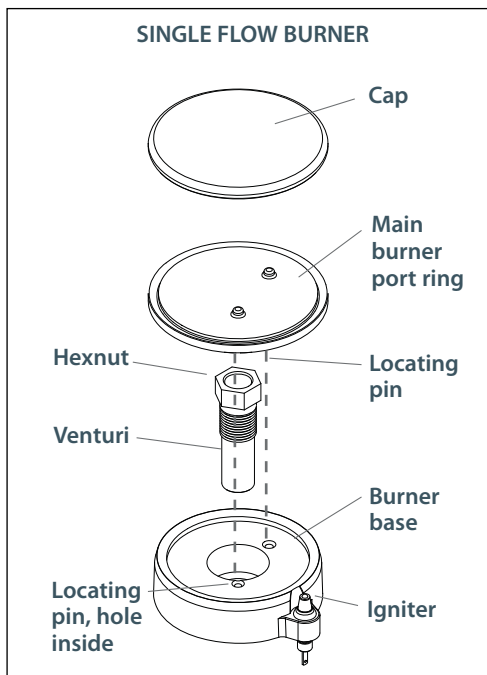
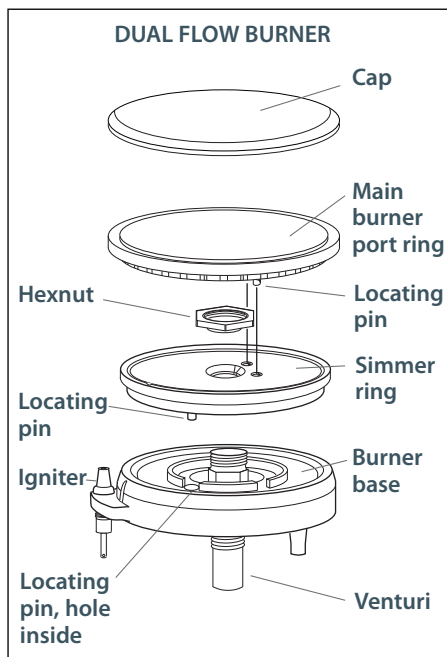

Fig. 29
Fig. 30
Disassembly of the simmer ring is not recommended, however, it may become necessary to do so if the ports remain clogged after normal cleaning. If it is necessary to disassemble the simmer ring from the base, remove the hex nut at the top of the simmer ring. Clean the simmer ring with hot soapy water using a soft wire or plastic bristle brush then dry thoroughly. Re-assemble the parts using the hex nut. After cleaning, it is important to make sure the locating pin on the bottom side of the simmer ring is properly aligned with the corresponding hole in the base and that the two locating pins (see Fig.30) in the bottom side of the port ring are properly aligned with the locating notch and center holes on the top side of the simmer ring. Incorrect alignment will produce a potentially dangerous flame and poor burner performance (see Fig. 29 and 30).
- Is the two piece burner assembled correctly? (See page 37 and 38, Fig. 29 and 30)
- Is the burner head assembly aligned correctly? (See page 37 and 38, Fig. 29 and 30)